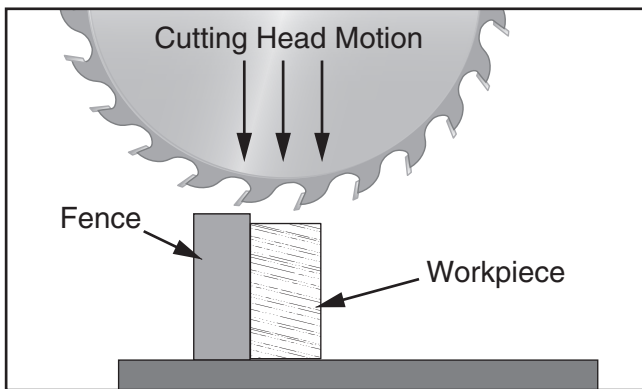

Figure 37. Cutting head during plunge cut.
7. Lower blade into workpiece with handle while holding trigger (see **Figure 37**).